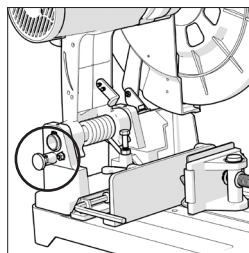

Fig. 1
- Pull out the head latching pin and lock in the outer position (**Fig. 1**) Allow the cutting head to rise to its upper position.